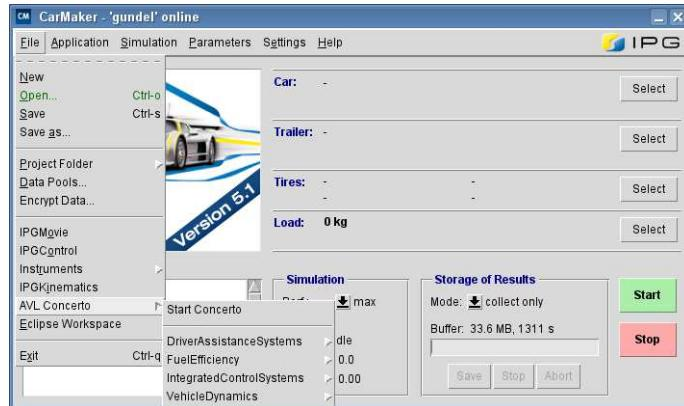

Figure 6.25: Starting CONCERTO
- File > Concerto > Start Concerto: will start CONCERTO (see Figure 6.25)
- File > Concerto > <layoutgroup> > <layout>: start with loading a layout and the latest simulation results found in SimOutput (see Figure 6.25)